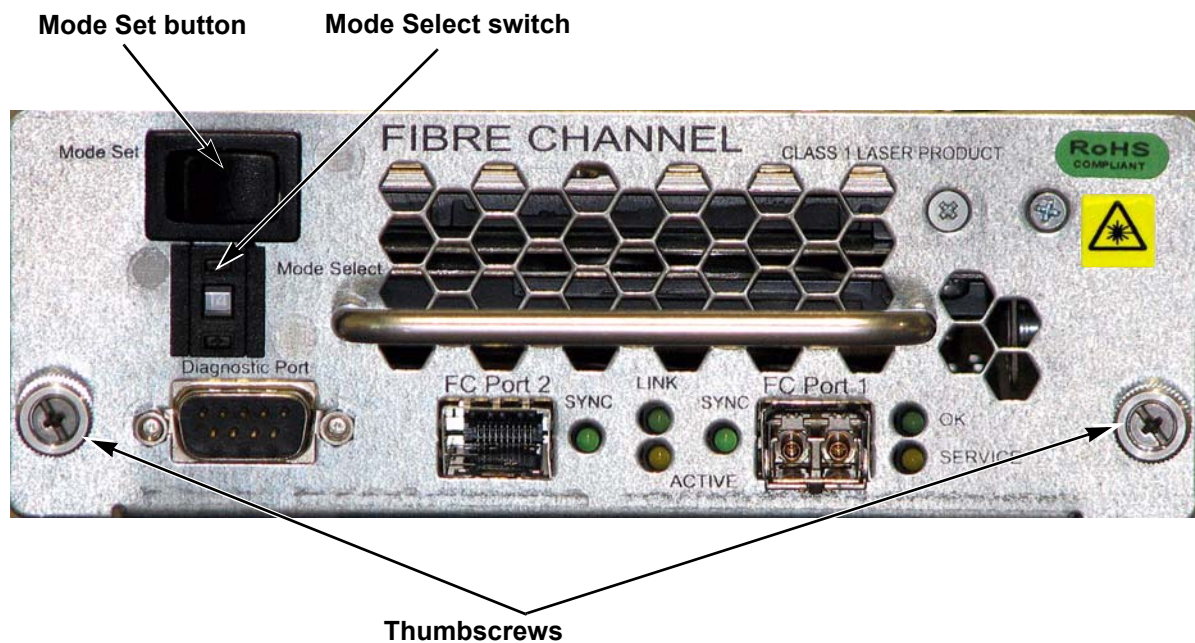

FIGURE 8-1. Mode Set Button, Mode Select Switch, and Thumbscrews of a vPOD.
1. On the back of the vPOD to be removed, change the **MODE SELECT** switch setting to “14”. (This option must be used to safely remove the device and preserve data). See Figure 8-1.
2. Press and hold-in the **MODE SET** button. Listen for a sequence of beeps. After the third sequence (that is, three equal-length tones) remove the vPOD from the MV 4440 chassis by removing all connected cables and unscrewing the two thumbscrews. See Figure 8-1.